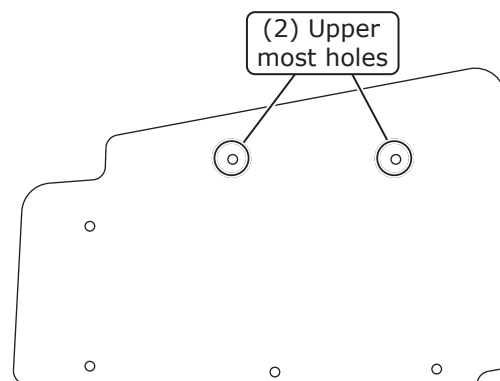

Figure 2
2. Momentarily place and seek alignment of the (2) upper most holes (See Figure 2, below). Use the supplied hardware of (2) 1/4-20 x 3/4" serrated flange black bolts to temporarily support the firewall cover. Locate misaligned holes and mark region to be trimmed or punched through.